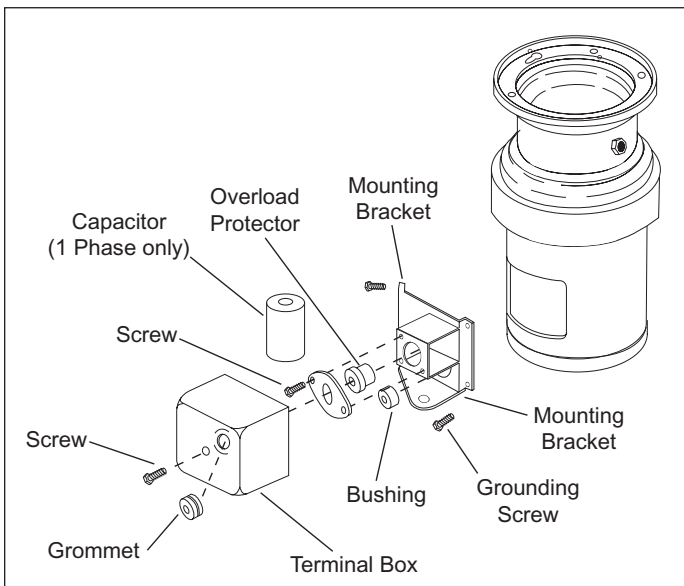

Figure 23. Terminal Box and Components
1. Remove screw and terminal box (Figure 23).
3. Install screw and terminal box (Figure 23).